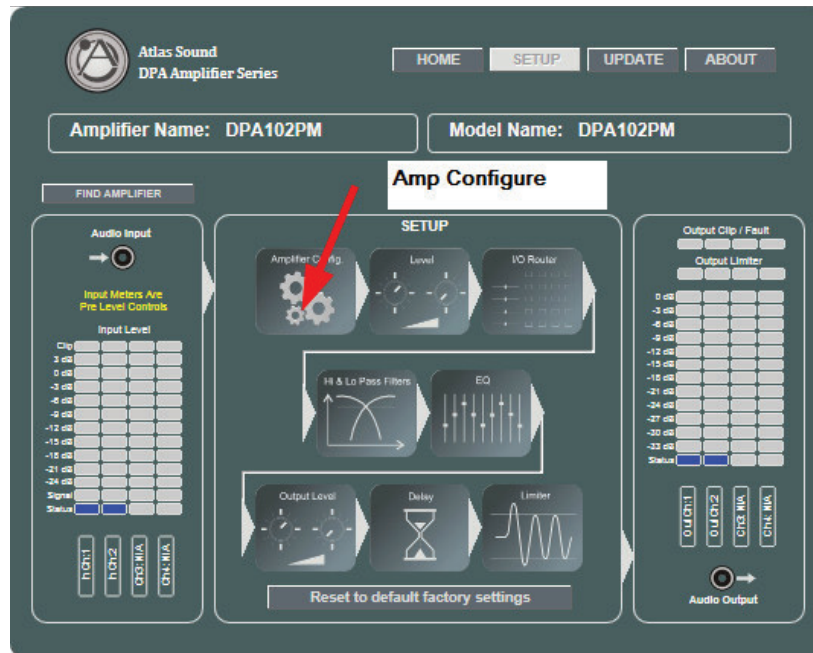

Figure 8
5. Once the GUI is accessed, the Setup page allows for full configuration and control of the DPA amplifier. It is recommended to start initial adjustments by clicking the Amplifier Configuration button as shown in Figure 8.